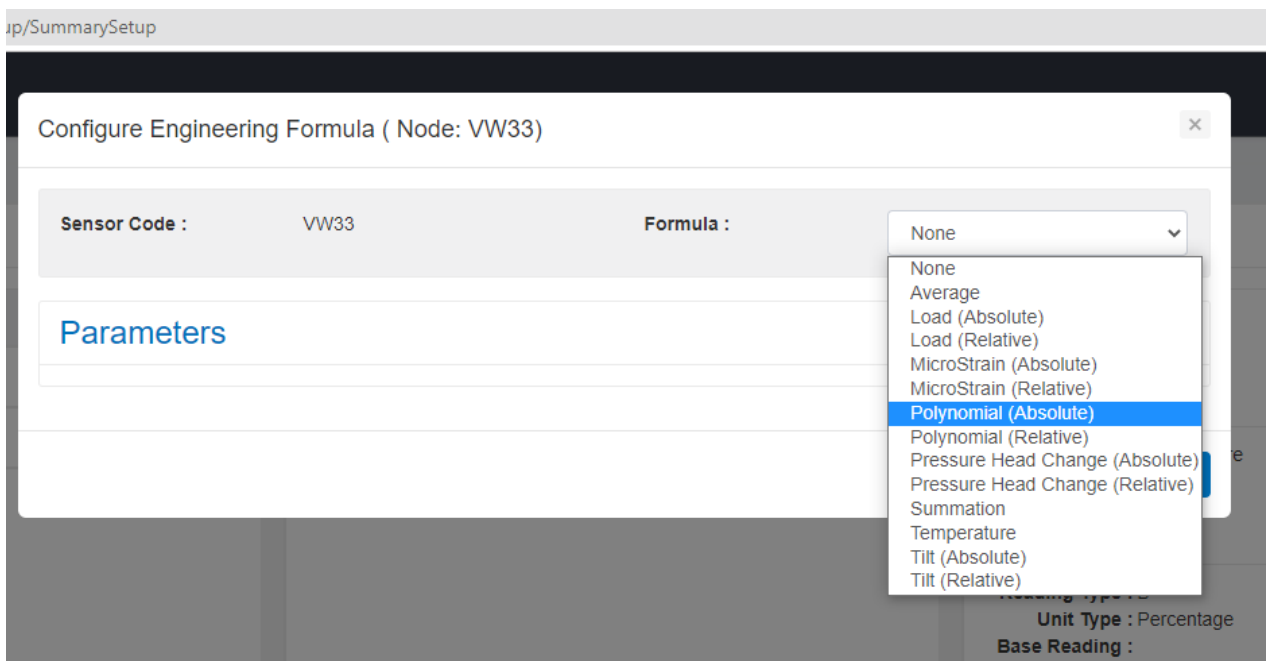

Figure 3-31
6. On selecting Σ symbol, window as shown in figure 3-31 will appear. Click on the drop down arrow on the 'Formula' tab and select the desired formula type. In the example shown below in figure below, "Polynomial (Absolute)" has been selected for the vibrating wire sensor.